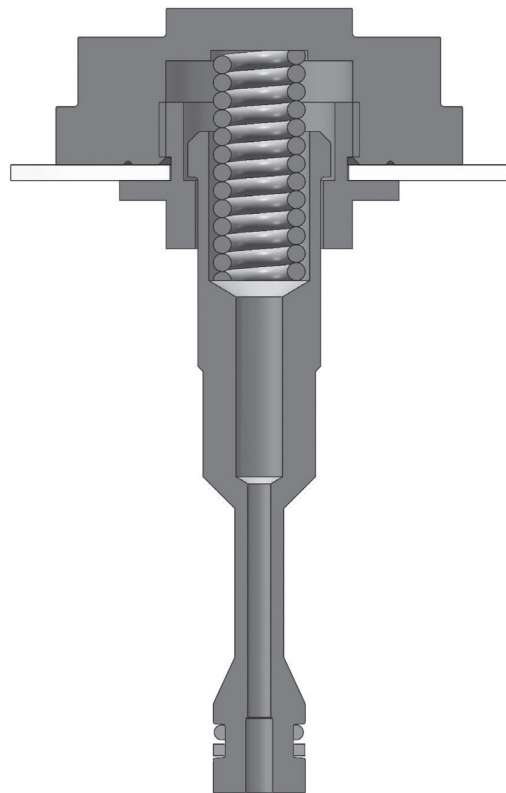

Figure 2. Diaphragm Subassembly
1. Remove adjusting knob (3) completely from the
- spring housing (2).
2. If valve is removed from the line, clamp the valve body in a vise upside down. Remove the bottom cap (9), seat holder (11), and seat (10). Discard the seat (10). Place body right-side up and clamp in vise again.
3. Remove spring housing (2), spring guide (5), and range spring (4).
4. Remove diaphragm assembly parts (6), (8), (7), (12), and (13). See Figure 2.
5. Unscrew the lower diaphragm plate (7) from the upper diaphragm plate (6). Discard the old diaphragm (8) and replace with new one. Remove and replace the backup ring (16) and o-ring (15) off of the plug. Inspect remaining parts of the diaphragm assembly and replace if necessary and reassemble. **Note:** Use only parts manufactured and supplied by LowFlow Valve for these parts.
6. Place diaphragm assembly (6), (8), (7), (12), and (13) back into the body cavity (1).
7. Replace range spring (4) and spring guide (5) on top of the upper diaphragm plate (6). Replace the spring housing (2) and knob assembly (3).
9. Place the new soft seat (10) into the seat holder (11) and put back into the bottom of the body (1).
10. Remove the o-ring (14) from the bottom cap and install the replacement.
11. Install the bottom cap (9) back into the body cavity (1).